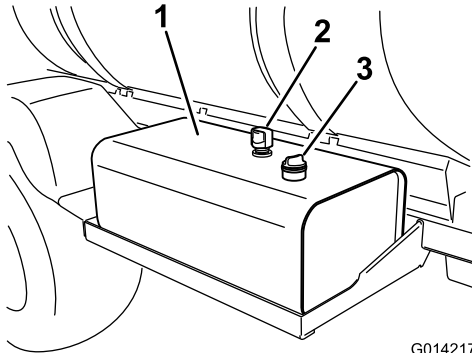

Figure 92
2. Clean the area around the hydraulic-fluid-tank dipstick cap and remove it (Figure 92).